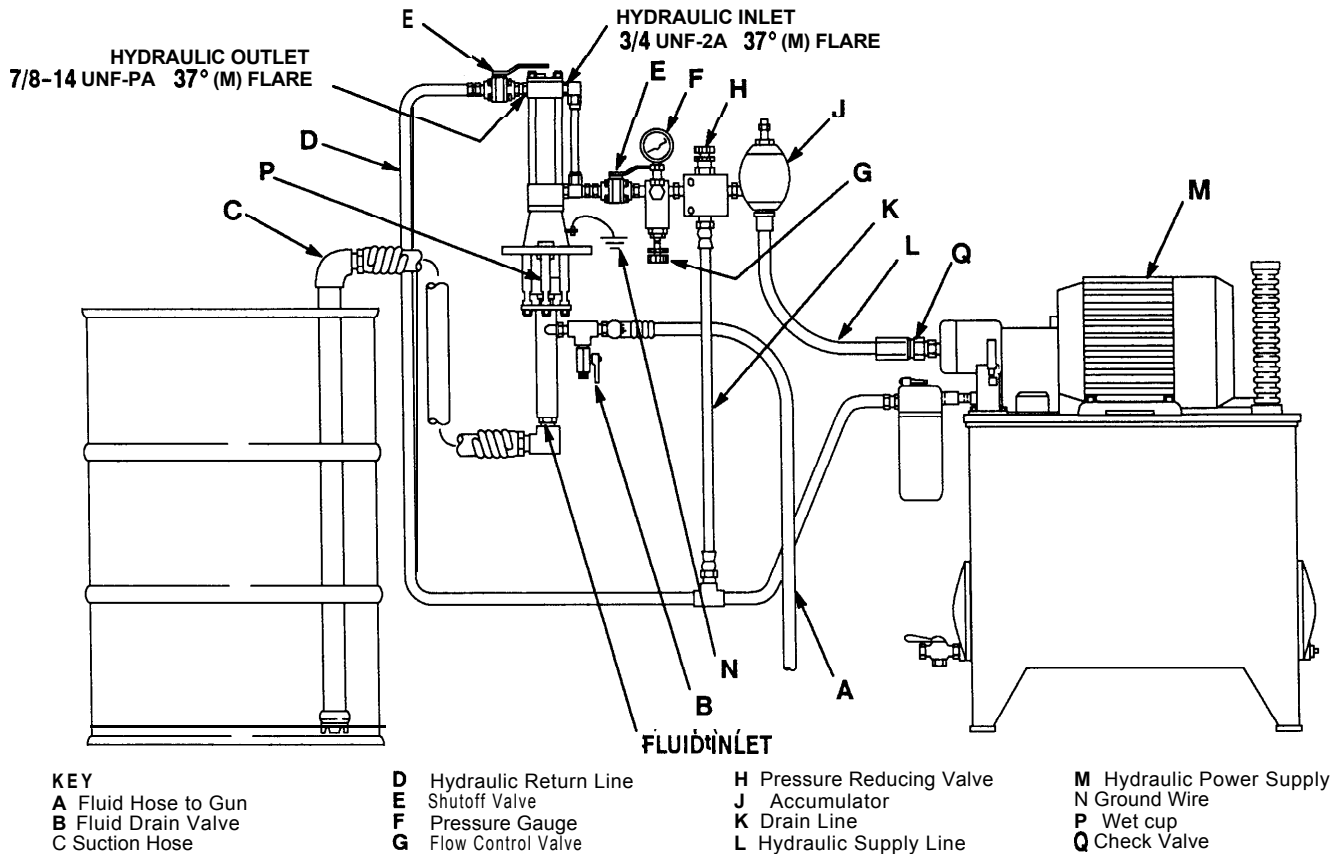

Fig 2
To reduce the risk of serious bodily injury, including fluid injection, your system must include a drain valve installed near the pump fluid outlet to help relieve fluid pressure in the displacement pump and hoses when shutting off the pump. See Fig 2.
Install a fluid drain valve (B) and a grounded dispense hose (A) to the  $3/8$  npt fluid outlet on the displacement pump. Connect a suction hose to the  $3/4$  npt pump fluid intake. See Fig 2.